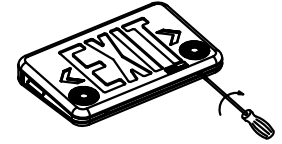

Fig 2
2. Insert a flat blade screwdriver into the slots and pry off front cover from fixture (see Fig 2).